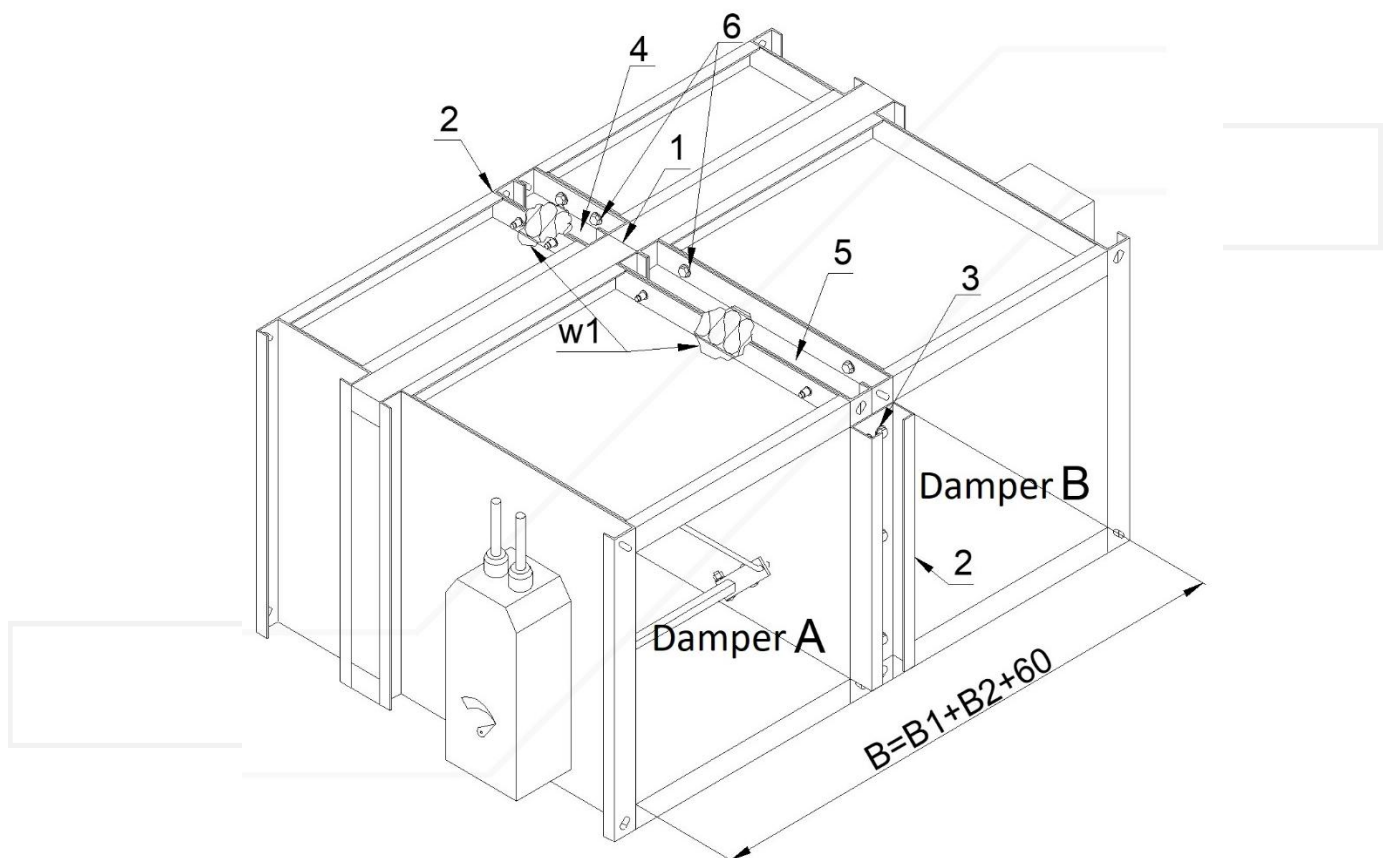

Figure 15. Arrangement 3 – horizontal battery consisting of two smoke control dampers KWP-P
- For vertical battery consisting of two KWP-P smoke control dampers: (B1+120)x(H1+H2+180) (Figure 15),